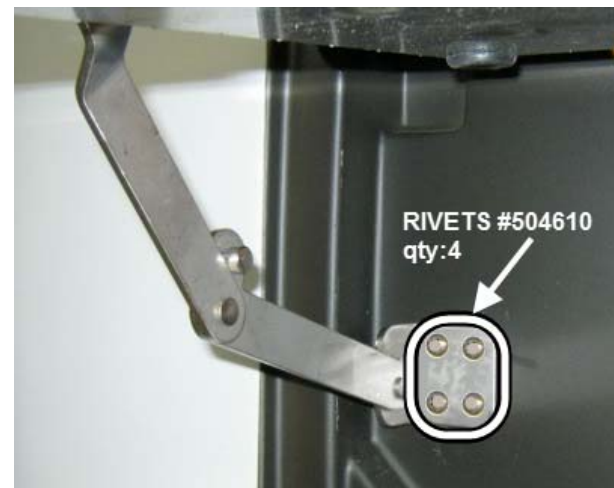

FIGURE 55
17. Reinstall the folding arm. Secure the folding arm as shown on FIGURE 55 using four 1/4" x 5/8 stainless steel rivets #504610.